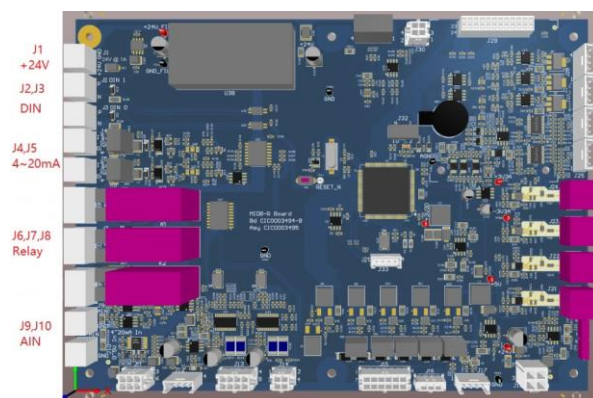

Figure 3.6: Main Interfaces of Main Control Board
Additionally, the main control board also includes external interfaces, including two 0/4-20 mA output interfaces, two digital input interfaces, three relay control interfaces and two analog input interfaces. Please refer to Figure 3.6 for the main interfaces.
The instrument provides three relays, J6, J7 and J8 (see Figure 3.6), without voltage contacts through the main control board. Three contacts: normally open (NO), normally closed (NC) and common terminal (COM). The maximum rated capacity of relay contacts is 250V AC, 8A. The maximum acceptable cable size for the wiring terminals is 14AWG. Table 3.3 describes J6, J7 and J8 wiring terminals and corresponding functions.